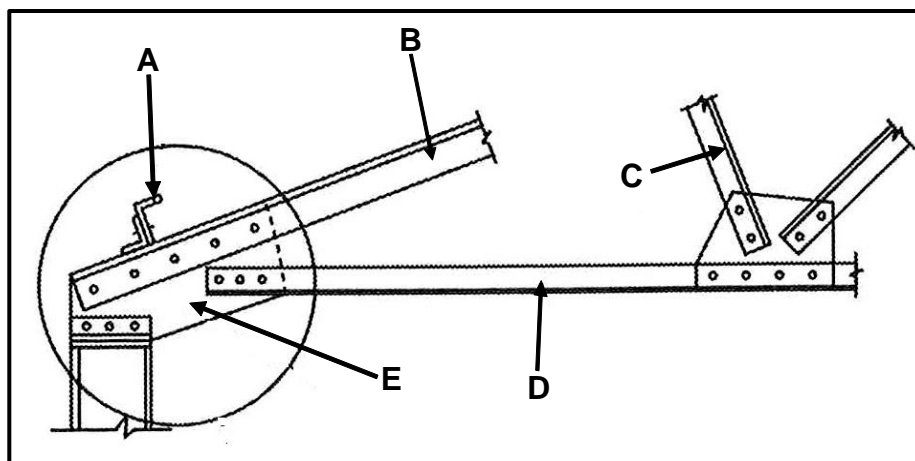

FIGURE 5.2
5.2 FIGURE 5.2 below shows part of a roof truss. Label parts A–E.